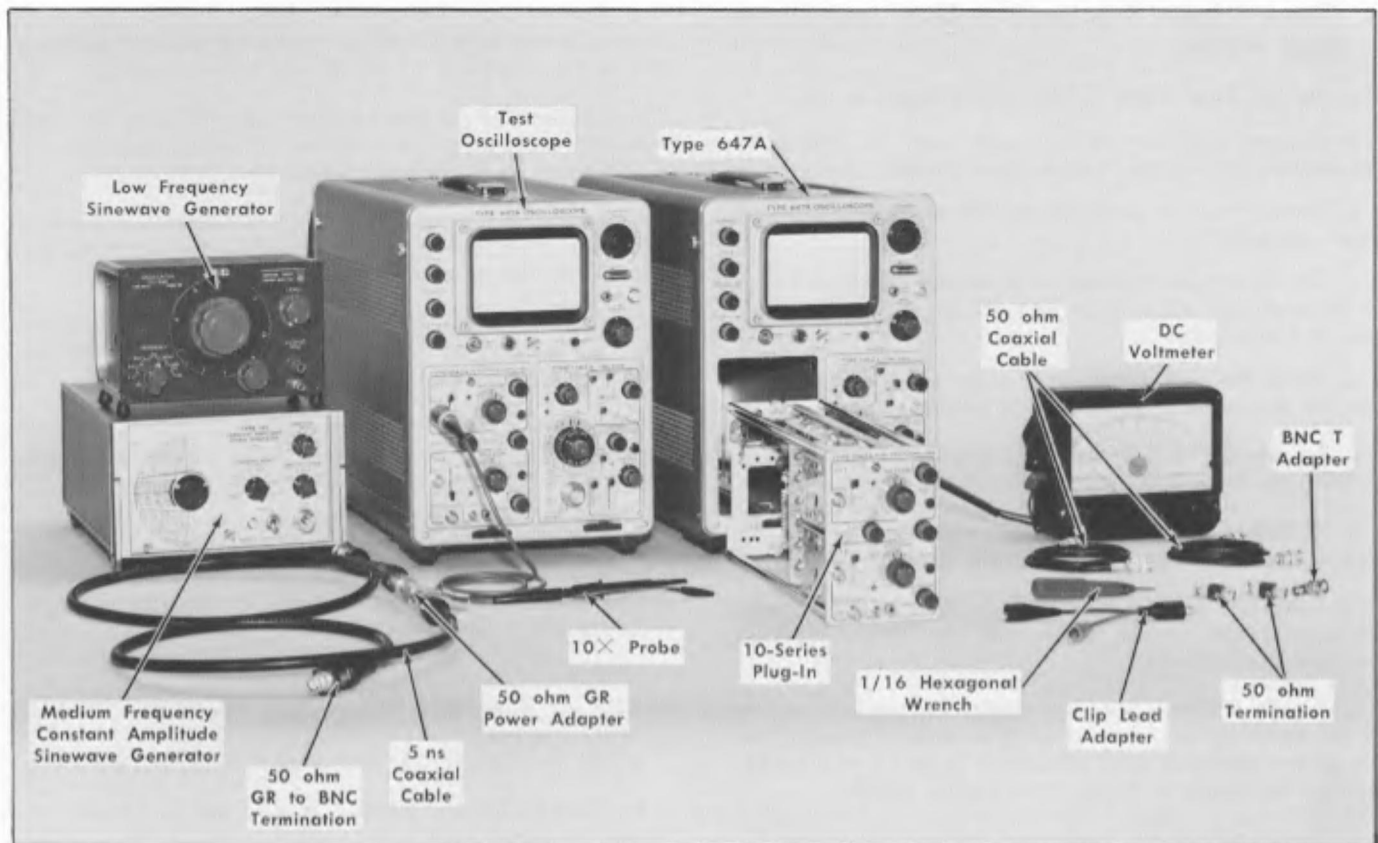

Fig. 6-2. Initial test equipment setup for steps 1 through 17.
- Test equipment setup is shown in Fig. 6-2.